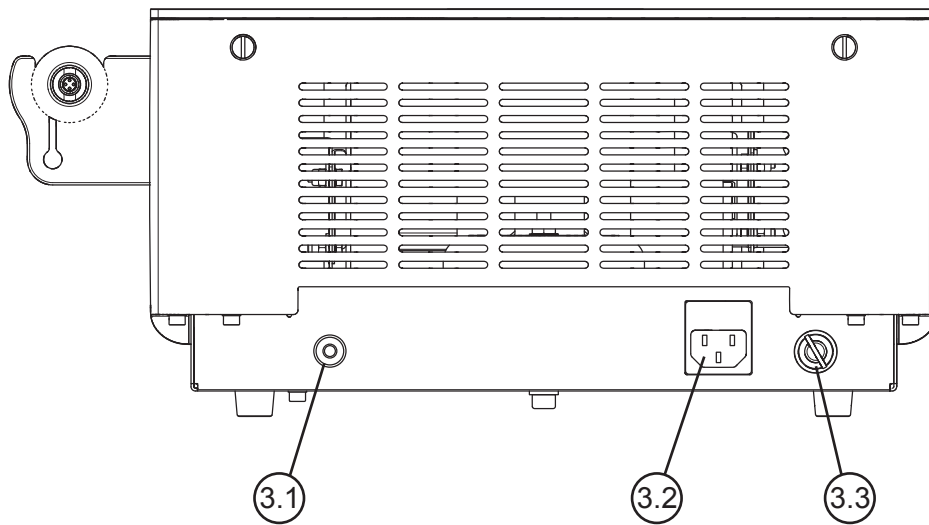

Figure 3
2. Insert the ignition key provided into the power switch located on the back of the device (*Figure 3*), keeping it in position O. The ignition key can only be removed in position O.
4. Insert the remote interlock connector (see section 10.1) into the corresponding jack located on the back of the device (*Figure 3*).
5. Insert the female connector of the power cord into the power socket located on the back of the device (*Figure 3*).
The remote interlock connector (*Figure 3*) is used to interrupt the emission of the laser beam in case of certain events external to the device.
1. Turn on the machine by turning the ignition key to position I (Figure 3).
5. To turn off the machine, turn the ignition key to position O (Figure 3).